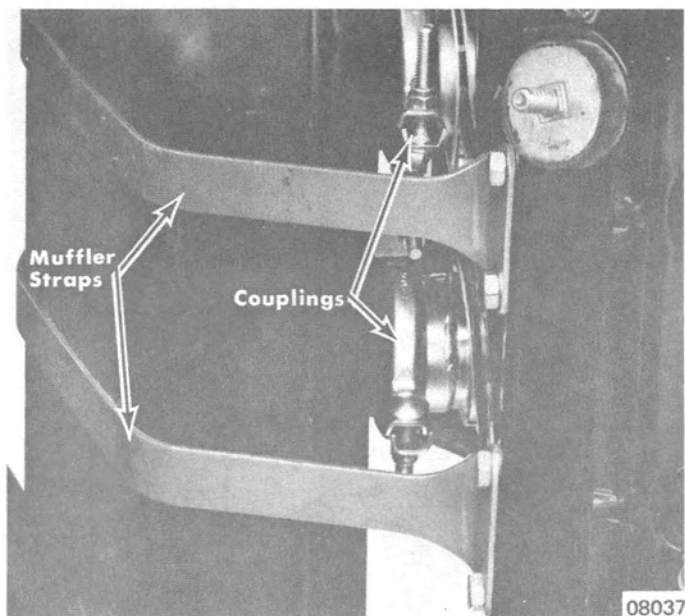

Figure 1. Exhaust System
2. Remove muffler straps by removing 6 muffler strap to engine attaching screws (2 allen head and 4 hex head). (Figure 1)
3. Remove exhaust pipe to muffler, couplings and exhaust seals. (Figure 1)